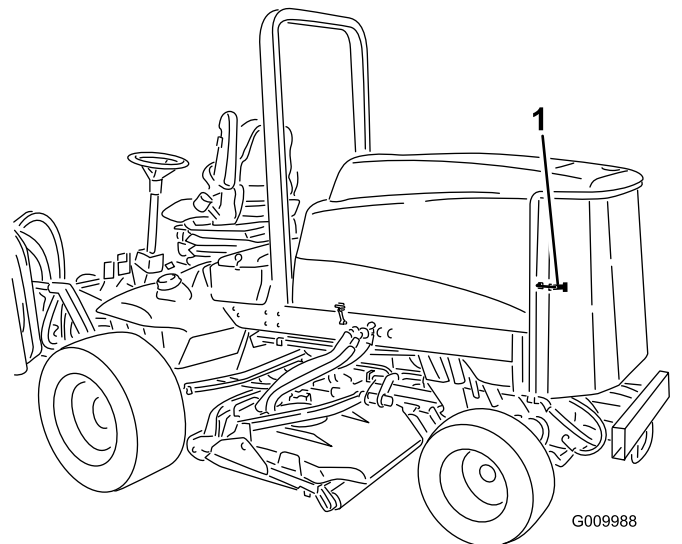

Figure 78
1. Unlatch and swing open the rear screen (Figure 78).